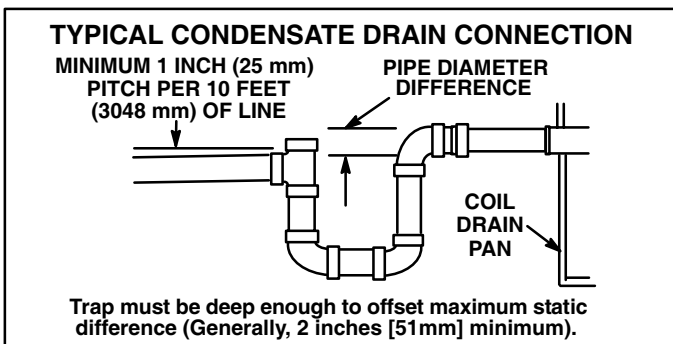

FIGURE 23
A 5" (127mm) section of PVC pipe is provided with the unit. Cut the pipe in half and use to route the auxiliary and main drains. Connect main condensate drain and route downward to an open drain or sump. Do not connect drain to a closed waste system. Refer to figure 23 for typical condensate trap configuration.
- 6- Drains should be constructed in a manner to facilitate future cleaning and not to interfere with filter access. See figure 23.